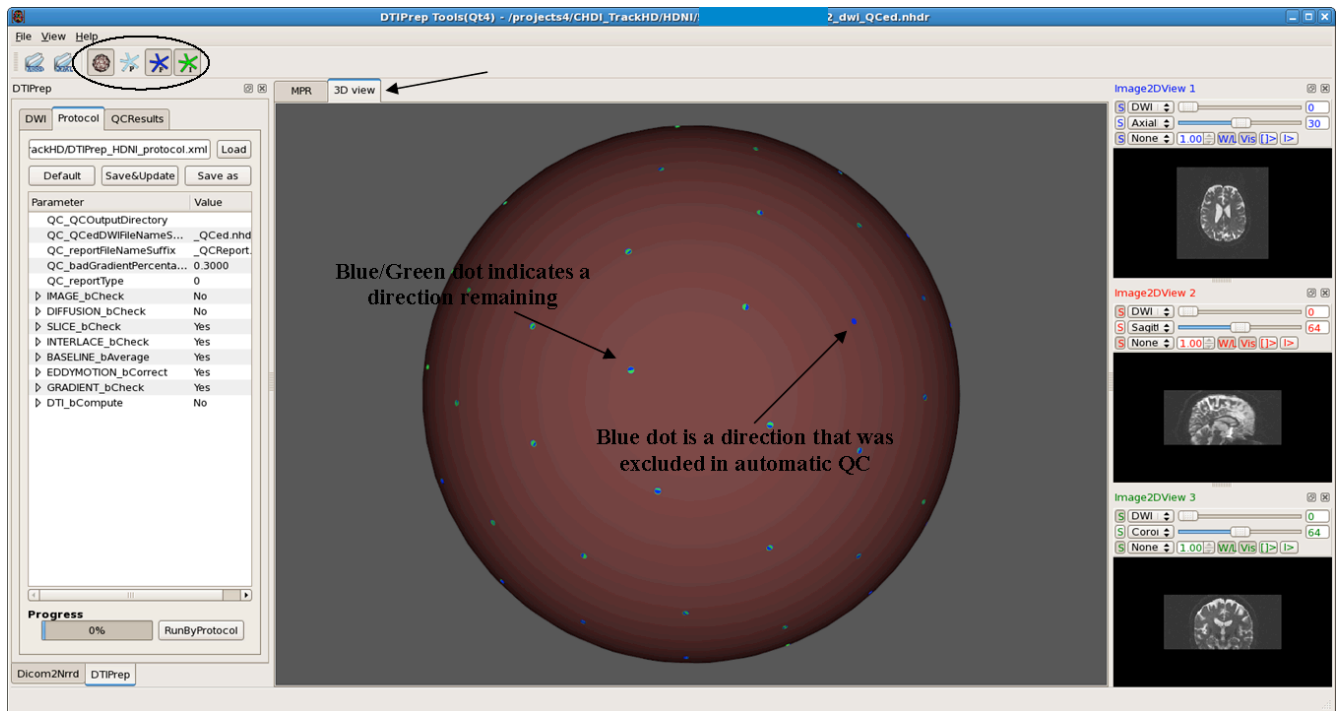

Figure 2.16 3D View displaying distribution of direction of gradients before and after automatic QC by DTIPrep
- i. After making and saving manual exclusions, select the 3D view tab and click on the sphere. The sphere roughly represents the brain. To examine the coverage of automatic QC exclusions spatially, load the original `~.nrrd` file. Select the F and I icons to view distribution of directionality. The F represents the directions of the currently loaded file, in this case, the original `~.nrrd` file before QC. These directions are represented in blue. The I represents the directions left after automatic QC, labeled in green. Note any major unevenness in spatial distribution caused by “clustering” of excluded gradients. See Figure 2.16